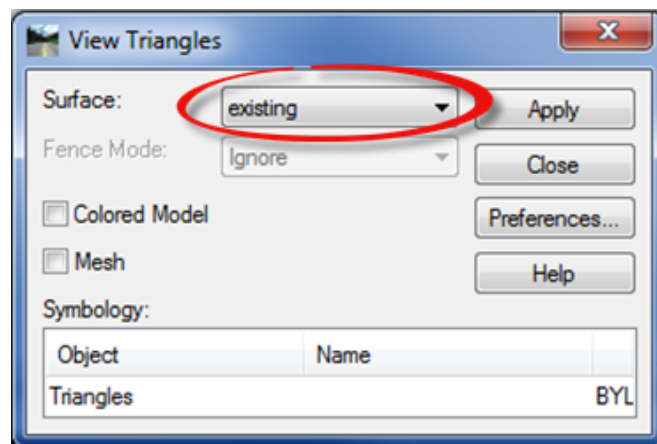

Figure 2-3 InRoads View Triangles Dialog Box
- E. On the InRoads Main Menu Bar click on Surface > View Surface > Triangles (Figure 2-3).